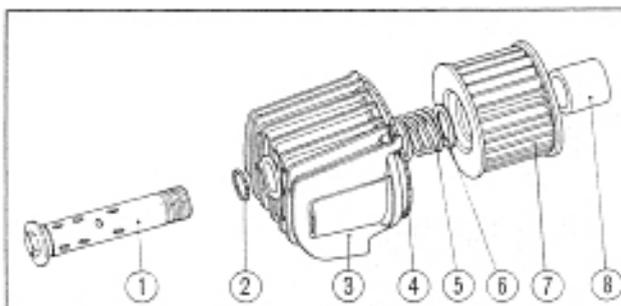

Fig. 3-28 ① Oil filter center bolt
② O-ring, 15×2.5
③ Oil filter case
④ O-ring, 89×4.5
⑤ Set spring
⑥ Spring seat
⑦ Oil filter element
⑧ Oil filter bolt collar
3. Make sure the oil filter is properly assembled. (See Fig. 3-28)